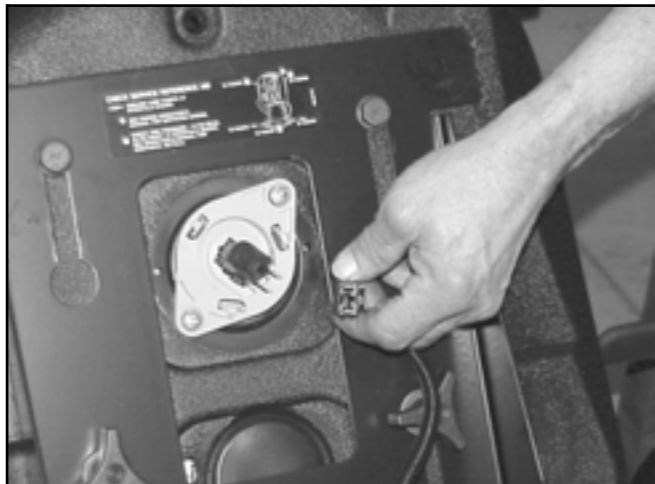

Figure 50
11. Unplug the seat switch and temporarily connect a jumper wire across the plug connector on the harness (Figure 50).